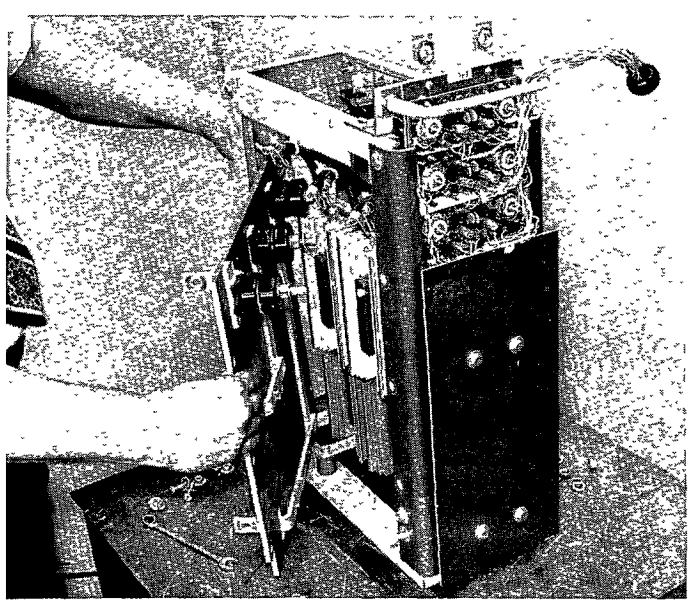

FIGURE 12
3. Lay phase module on its side with the heatsink clamp nuts up. The module top frame should rest on one wooden block, and the bottom frame on the other block; the blocks being positioned to permit hand access to the bottom heatsink associated with the faulty cells clamp. (See Figure 12).
5. Lay the Converter Module on its side with the heatsink clamp nuts up. The module top frame should rest on one wooden block, and the bottom frame on the other block; the blocks being positioned to permit hand access to the bottom heatsink associated with the faulty SCR's clamp (See Figure 12).